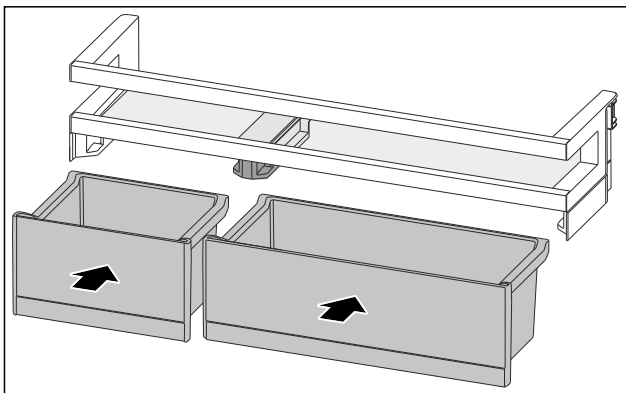

Fig. 112
- Insert the VarioBoxes opposite order. (see Fig. 112)